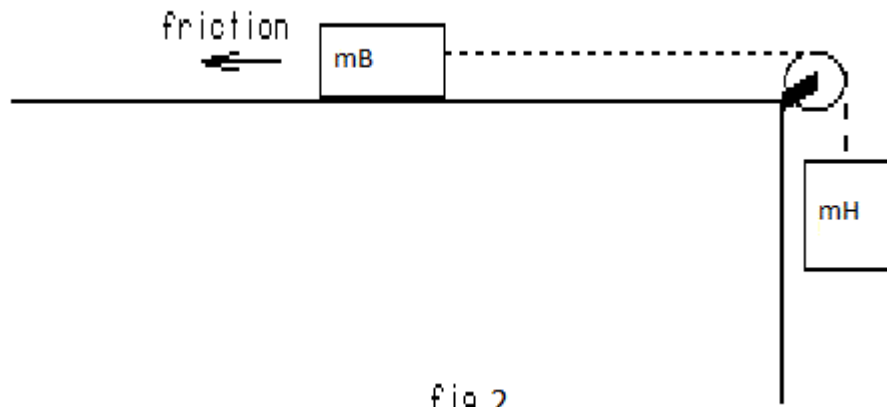

fig 2
- Connect the system as shown in figure 2.